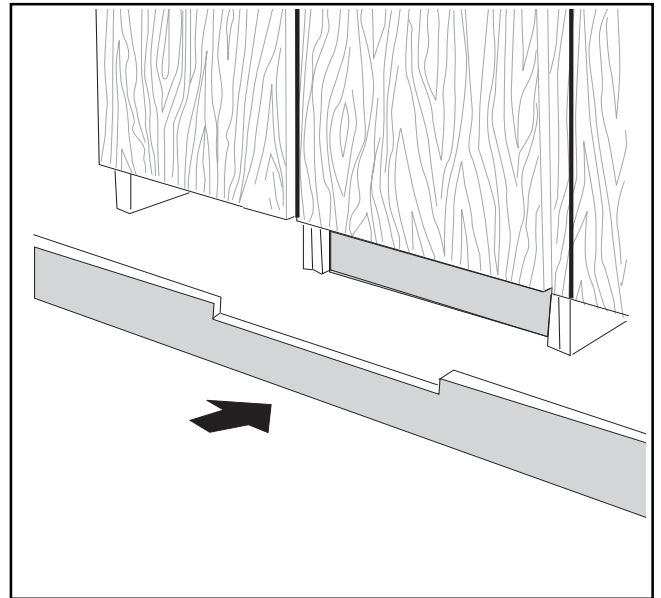

Fig.8
- 5、 Install the base moulding again (Fig.8).